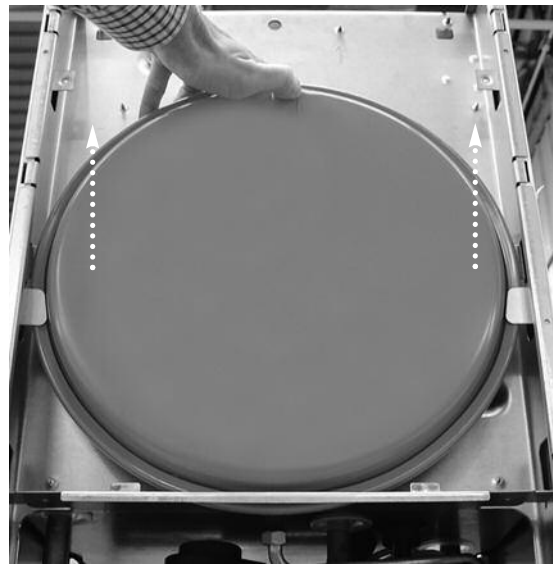

Fig. 94
5. Pull the expansion vessel to remove it (see Fig. 94);